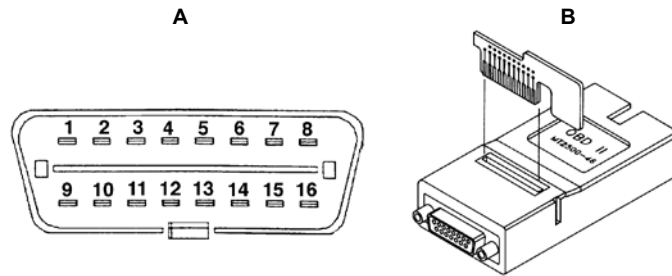

Figure 15-14 OBD-II adapter and Personality Key™
- “Connections Using the OBD-II Adapter” on page 173 (Figure 15-14)